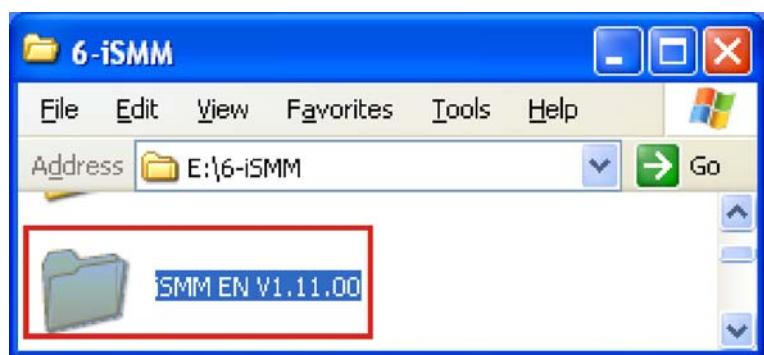

Figure 7-29: iSMM Directory
**Step 3:** The iSMM directory appears. (**Figure 7-29**)
**Step 4:** Double click the **iSMM EN V1.11.00** directory icon. (**Figure 7-29**)